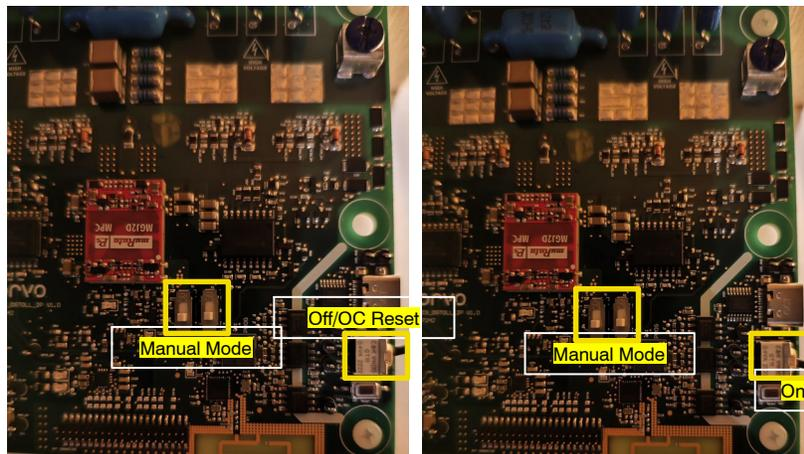

Figure 14. Manual/MCU Mode (S1 and S2), ON/OFF Switch
1. For manual control mode, S1 and S2 need to be switched to the position towards MCU/Antenna side, see Figure 14.
4. On/Off control: switch SW2 to turn the power switch on (towards antenna) or off (towards USB port), see Figure 14.